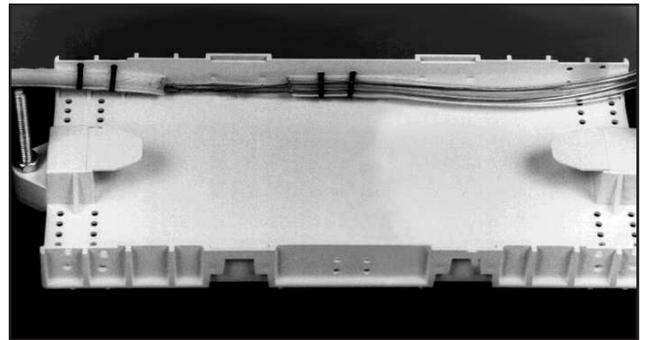

FIGURE 3- SECURE BUFFER TUBES & TRANSPORT TUBES TO TRANSITION ASSEMBLY
- 6.09 Using two of the tie wraps supplied with the Splice Tray(s), secure the buffer tubes and Transport Tubes to the back wall of the Transition Assembly. (Figure 3) Proceed to Step 6.15.